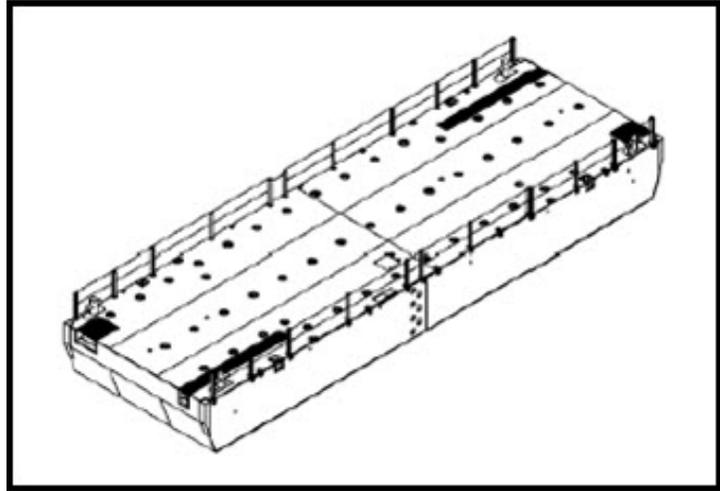

Figure 13-9 Intermediate Module
13.3.4.7.3 Intermediate Module (IM)
The IM (Figure 13-9) is a non-powered module and is the functional equivalent of the Combination Module (CM), without side connectors. It has flexor connectors fore and aft so that it can be connected with other modules end-to-end. The IM is used as the main load-carrying module of the CF and makes up most of the roadway portion of the CF. The IM has 3,840 cubic feet of below deck stowage space for items such as cleats, lifelines, life rings, drop down fenders, etc.